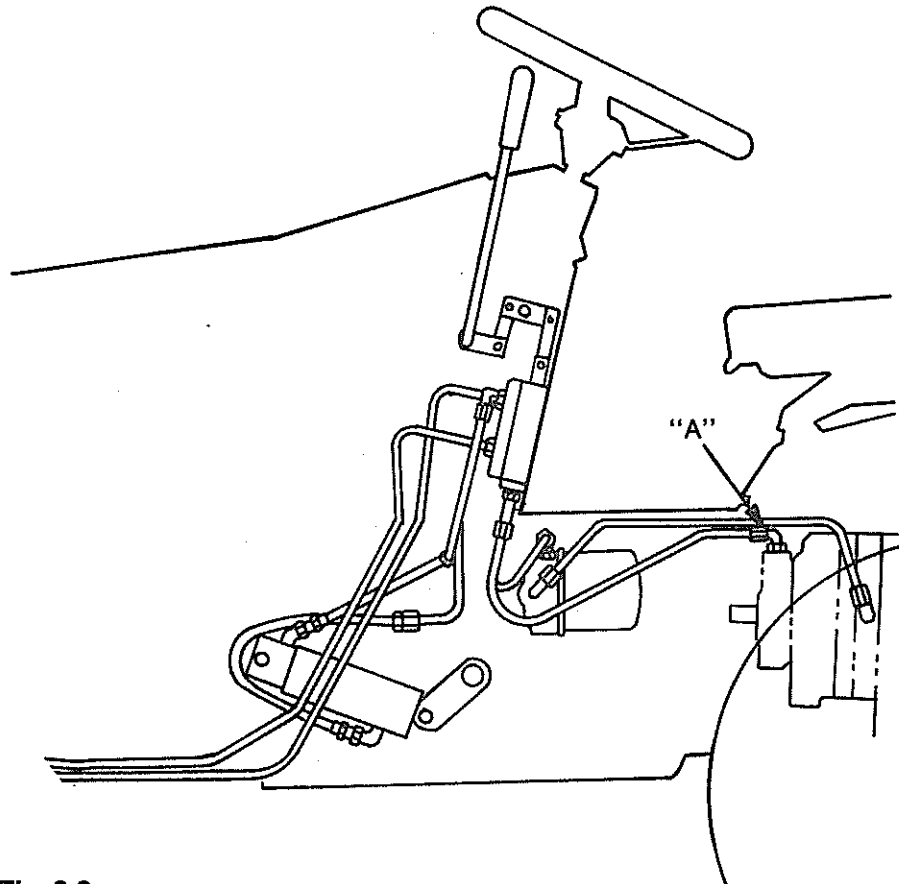

Fig. 6-3
1. Connect a 1000 PSI minimum pressure gauge into the charge pump outlet with a TEE as illustrated in Figure 6-3
1. Connect a 1000 PSI minimum pressure gauge into the charge pump outlet with a TEE as illustrated in Figure 6-3.
Connect a 1000 PSI minimum pressure gauge into the charge pump outlet with a TEE as illustrated in Figure 6-3.